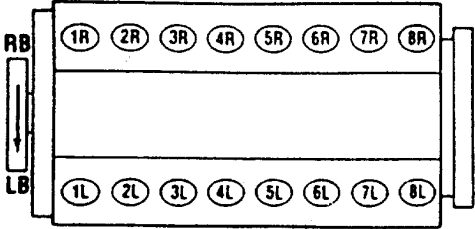
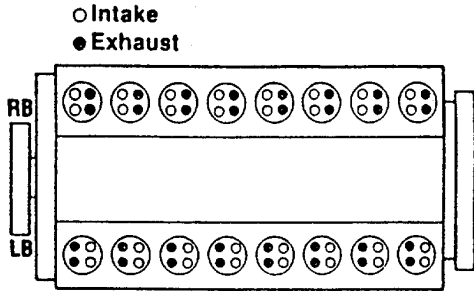

FIGURE 2-33. Cylinder Number.
FIGURE 2-34. Intake and Exhaust Valve Location.
(2) Reference FIG. 2-33 for how cylinders are numbered. Reference FIG. 2-34 for location of intake and exhaust valves.